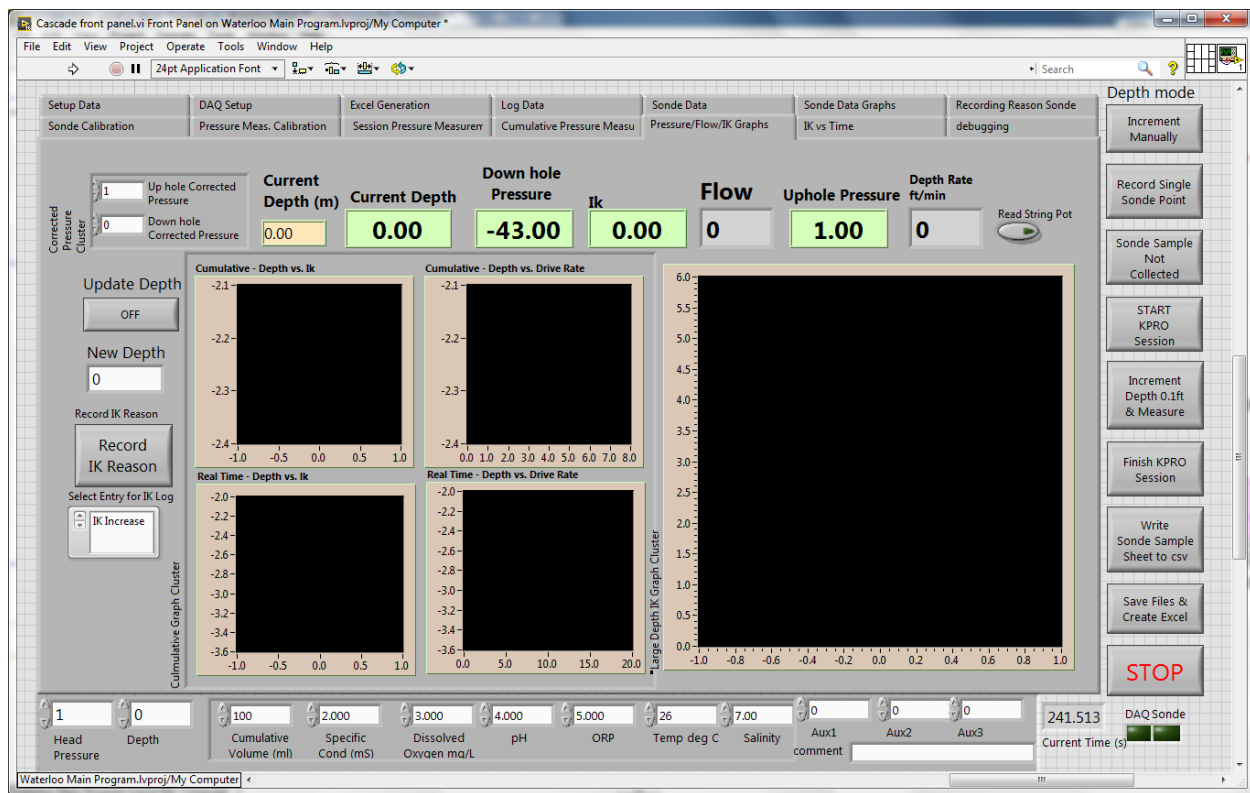

Figure 14: Pressure/Flow/IK Graphs Tab
The next tab shows the entries for recording reasons why a Sonde data point may not have been taken at a depth. The “Record Sonde Reason” button will record the time, pressure, depth, and reason. The exact reason can be selected from the list on the left to the sonde button. Pressing the button will record the data in the csv file shown in the “Sonde Recording Failure Path” indicator. The array indicators to the right will show any previous reasons that have been recorded for the current profile. Also shown on this tab is an array of the reasons why a hydraulic conductivity (IK) reading may also be invalid and the path to the csv file in the “Sonde IK Recording Failure Path” indicator. The button and list to actually record an IK failure are shown on the Pressure/Flow/IK Graphs Tab tab (Figure 14).